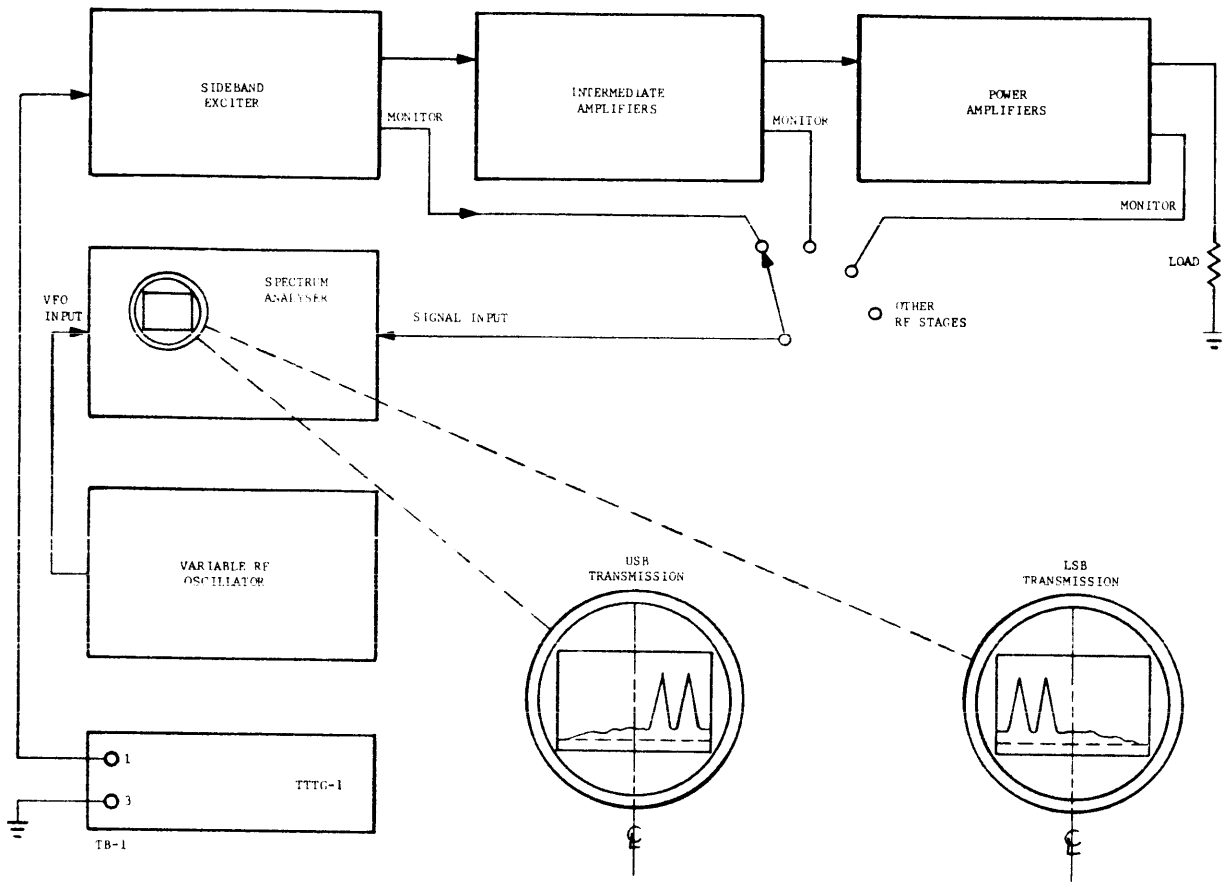

FIGURE 3-1. TWO-TONE TEST FOR DISTORTION
- c. Connect signal-input jack of spectrum analyzer to RF output jack of sideband exciter, intermediate amplifier, power amplifiers, or other R-F stages as indicated in figure 3-1.